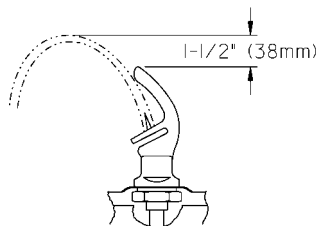

FIG. 9
15. Check stream height from bubbler. Stream height is factory set at 45-50 PSI . If supply pressure varies greatly from this, remove items 9 & 21 and adjust the screw on the regulator (item 8). Clockwise adjustment will raise stream height and counter-clockwise will lower stream height. For best adjustment stream height should be approximately 1-1/2" (38mm) above the bubbler guard. (See Fig 9)
16. Mount lower panel. Loosen the (2) #10-24 x 5/8" (16mm) screws at frame bottom lip. Slide upper tongue of lower panel under lower edge of already installed upper panel. Tighten previously loosened screws securely.